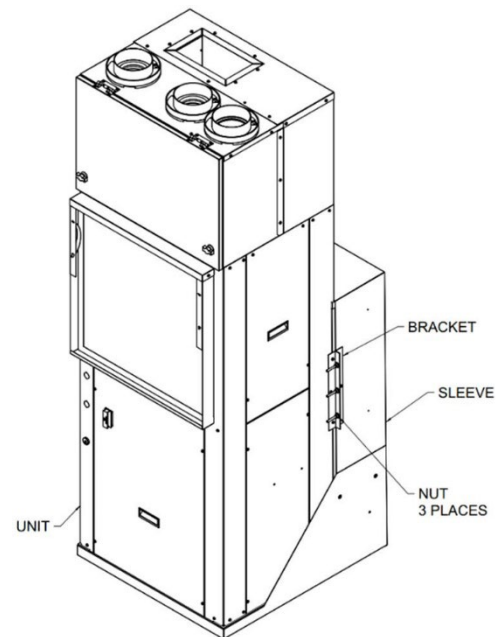

Figure 14 - Wall Sleeve Seal
9. After the seal is inspected, lift the unit onto the base of the sleeve and slide the unit forward to engage the seal. The unit uses locking brackets with weld studs. Align the unit to the bracket on the sleeve. Tighten down the unit until there is a tight seal with the sleeve. See **FIGURE 14 - Wall Sleeve Seal**